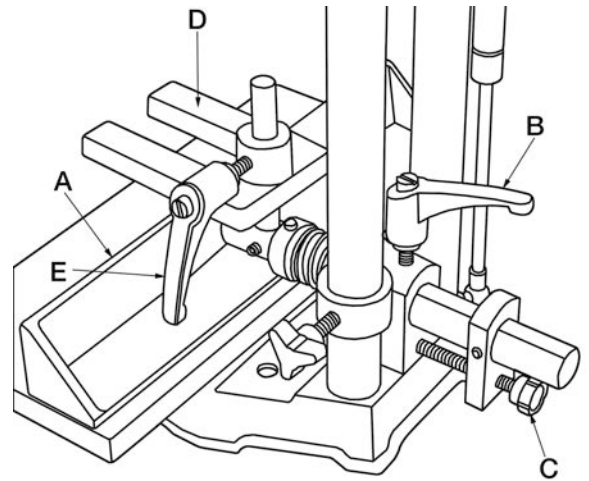

FIGURE 12
The fence (A) Fig.12 can be moved in or out by loosening the lock handle (B) and turning the adjustment knob (C) until you reach the desired position, retighten lock handle (B) once the adjustment is done.
The hold down (D) Fig.12 can be raised and lowered by loosening the lock handle (E).